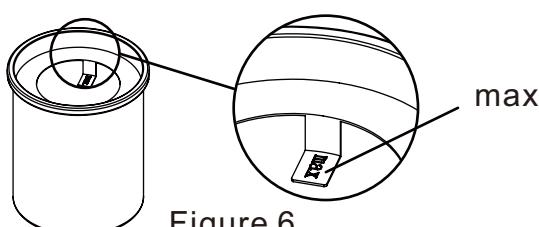

Figure 6
-Do not fill the burner pot to a level above the "max" indicator (see Figure 6).